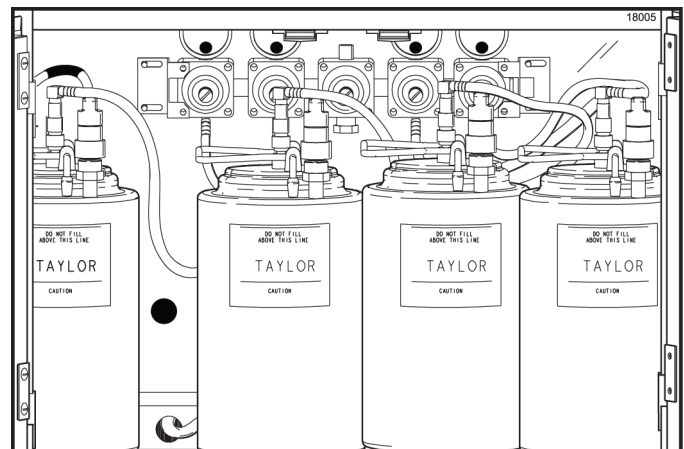

Figure 6-55
10. When ready to resume normal operation, press the AUTO key. (See Figure 6-55.)
The syrup tanks are located in the lower front syrup compartment. The syrup lines are color-wrapped. Make sure to match the color-wrapped syrup line to the correct syrup flavor. (See Figure 6-55.)